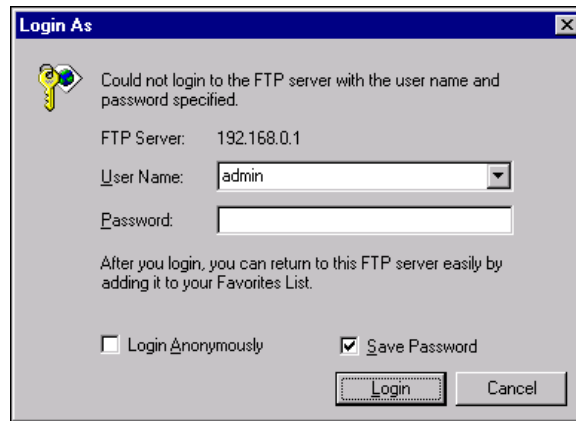

Figure B-0-1: FTP Login dialog
- 1 Open an FTP session and login to the target reader by typing **ftp://** followed by the reader's IP Address into the browser's Address bar (for example, **ftp://192.168.0.1**). A Login dialog appears (Figure B-0-1).